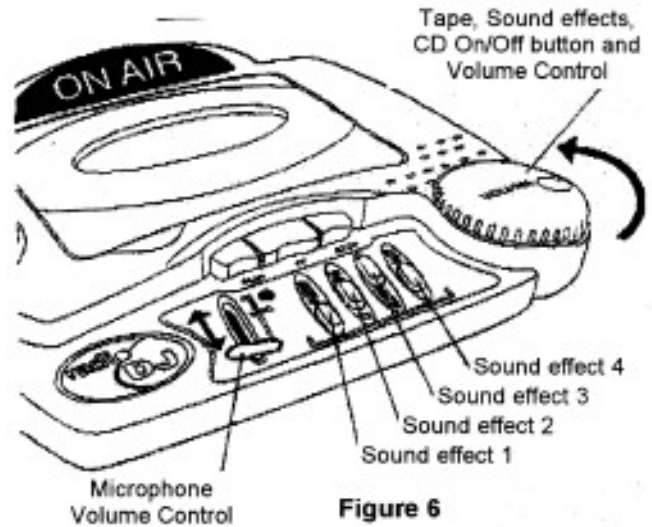

Figure 6
1. Make sure microphone volume is set to desired level by moving microphone volume control up or down. (Figure 6)